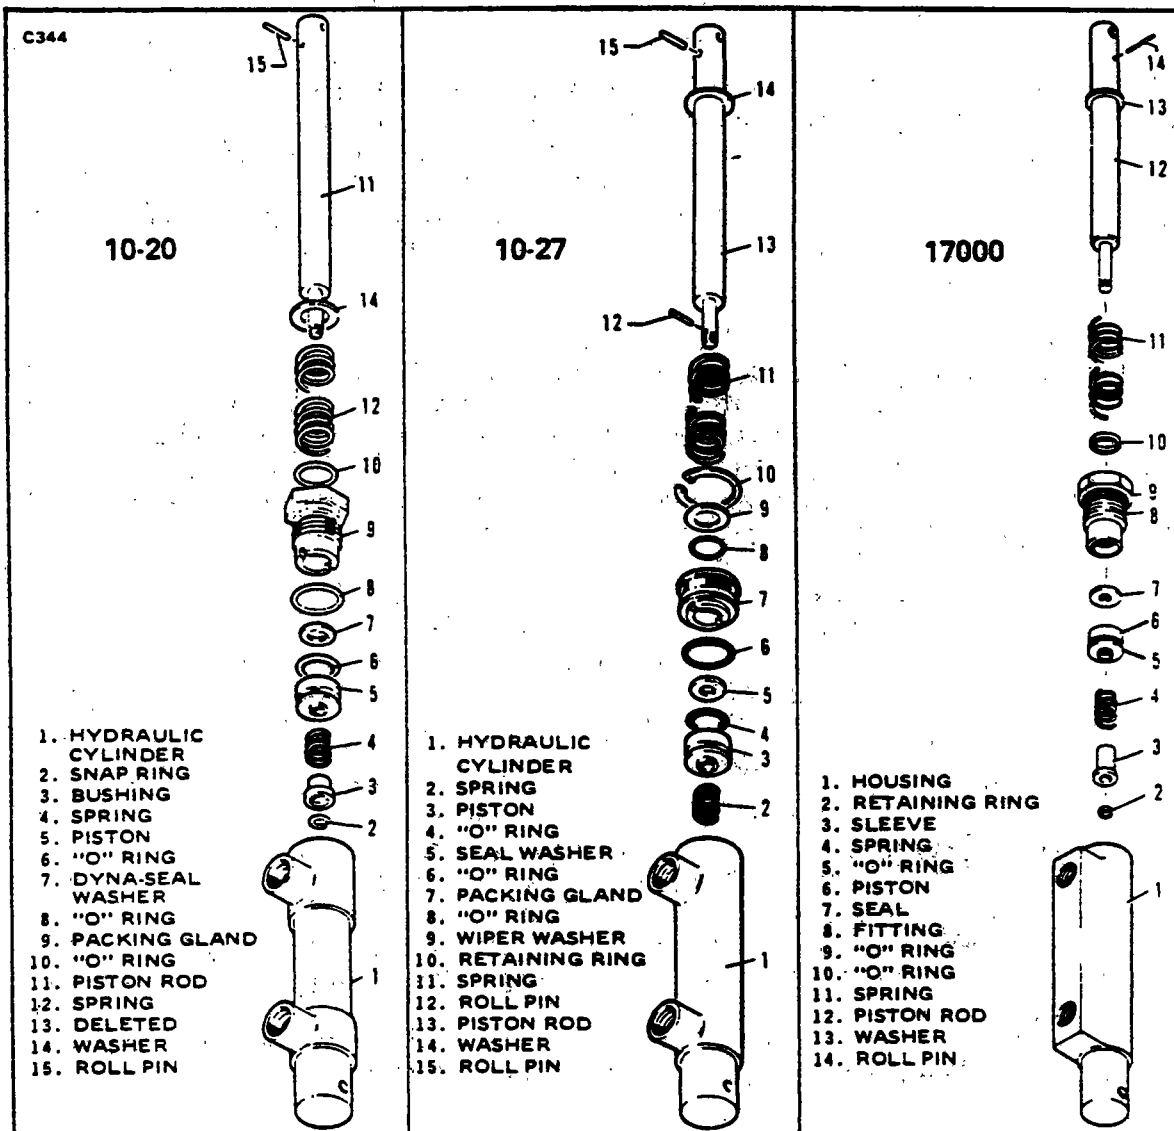

Figure 7A-22. Toe Brake Cylinders
2. To disassemble the cylinder, first remove the piston rod assembly by removing the retaining ring from the annular slot in the cylinder housing (1). Draw the piston rod assembly from the cylinder.
3. The piston rod assembly may be disassembled by first removing the retaining ring (2), sleeve (3), spring (4), and then the piston assembly, O-ring (5), and gland (8), and, if desired, the return spring (13).
- d. Gar-Kenyon cylinder number 17000. (Refer to Figure 7A-22.)
2. To disassemble the cylinder, first remove the piston rod assembly by unscrewing the fitting (8) from the cylinder.
3. The piston rod assembly may be disassembled by first removing the retaining ring (2) securing the sleeve (3) and then removing the spring (4), piston (6), seal (7), fitting (8), and, if desired, the large return spring (11).
- a. Cleveland cylinder number 10-20. (Refer to Figure 7A-22.)